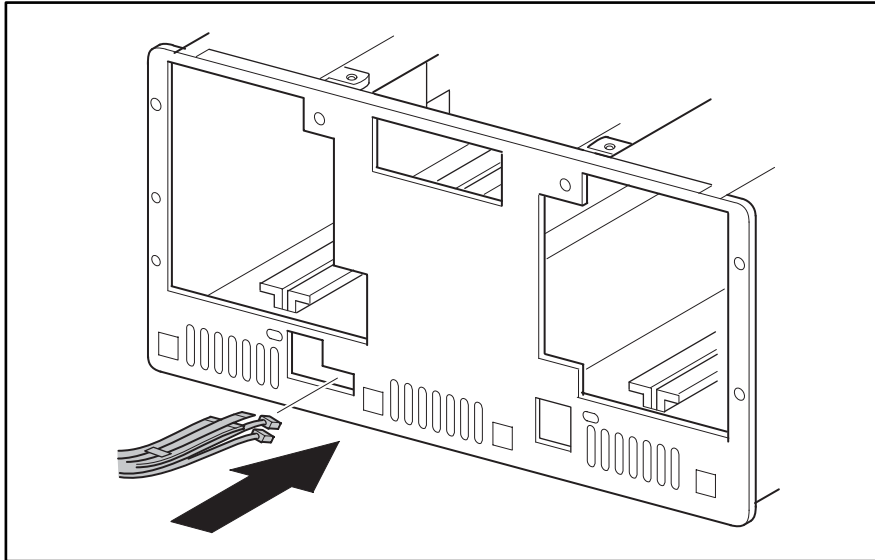

Figure 2-9: Routing the front panel cables
1. Position the front panel near the library chassis and then guide the cables through the library chassis opening (see Figure 2-9). Make sure that the flex cable stays on top of the 15-pin flat cable and does not get twisted or folded as it goes through the library chassis.